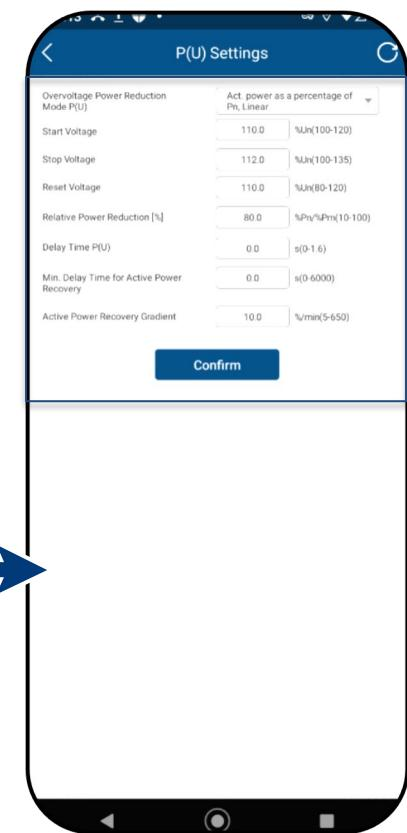
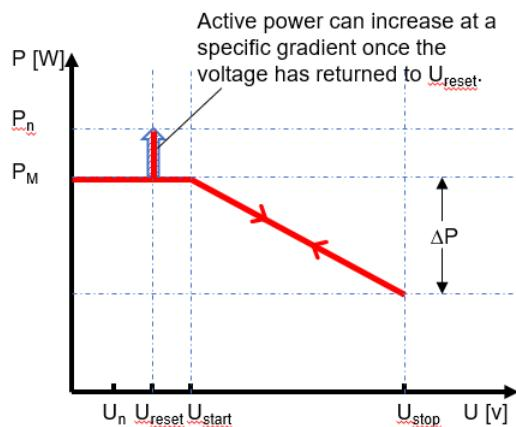

Fig. 113. Set the P(U) parameters
Fig. 114. Non-hysteresis
**Legend for Fig. 113+ Fig. 114** Un: Nominal voltage; Ureset: Reset voltage; Ustart: Start voltage; Ustop: Stop voltage;  $\Delta P$ : Active power in % during reduction.
**Note:** The intentional delay time for P(U) is only used for the activation of the function in accordance with the voltage via Ustart, whereby the intentional delay time plus own dead time must be smaller than 2s.